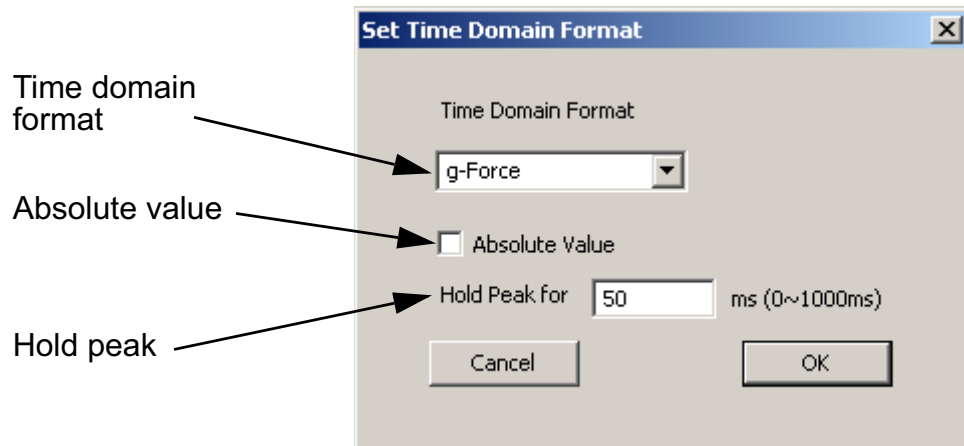

Figure 4.18: Set Time Domain Format dialog
VibeReview gives you three options for setting the time domain format for traces (see Figure 4.18 on page 4.23):
1. Choose the menu item **Settings > Set Time Domain Format**. The Set Time Domain Format dialog is displayed (see Figure 4.18).